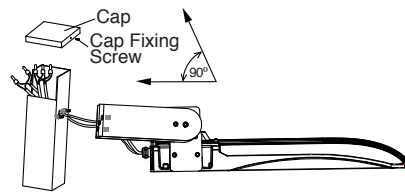

Figure 4-2
2. Put the installation bracket on the pole position, and using screws and nuts to fix the light tight, adjust to the desired light angle. (Figure 4-2)
3. Connect the wire of the lamp to the mains according to local wiring rules, make good protection on the connection, put the wire into the pole, cover the pole cover, tighten the side screws. (Figure 4-2)